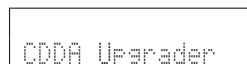

Fig. 2
1. While pressing the "TUNING >>" key of this unit, connect the power cable of this unit to the AC outlet. (Fig. 2)
The FIRMWARE UPDATE mode is activated and "CDDA Upgrader" is displayed. (Fig. 2)